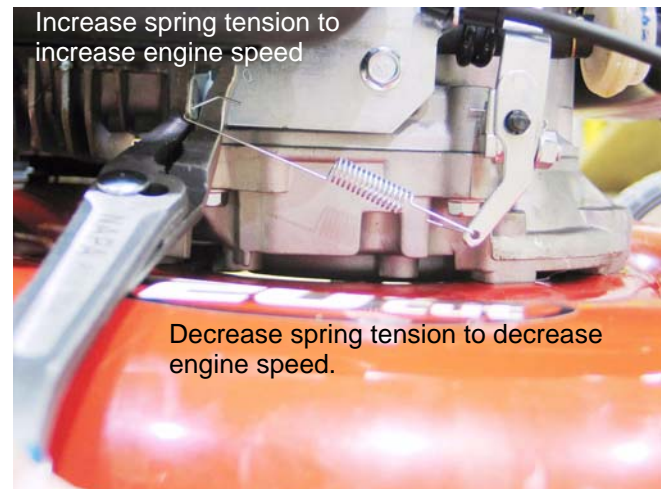

Figure 5.7
- 5.7. Top no-load speed may be adjusted slightly to meet this specification by bending the bracket that the governor spring connects to. The bracket is visible under the air filter. See Figure 5.7.